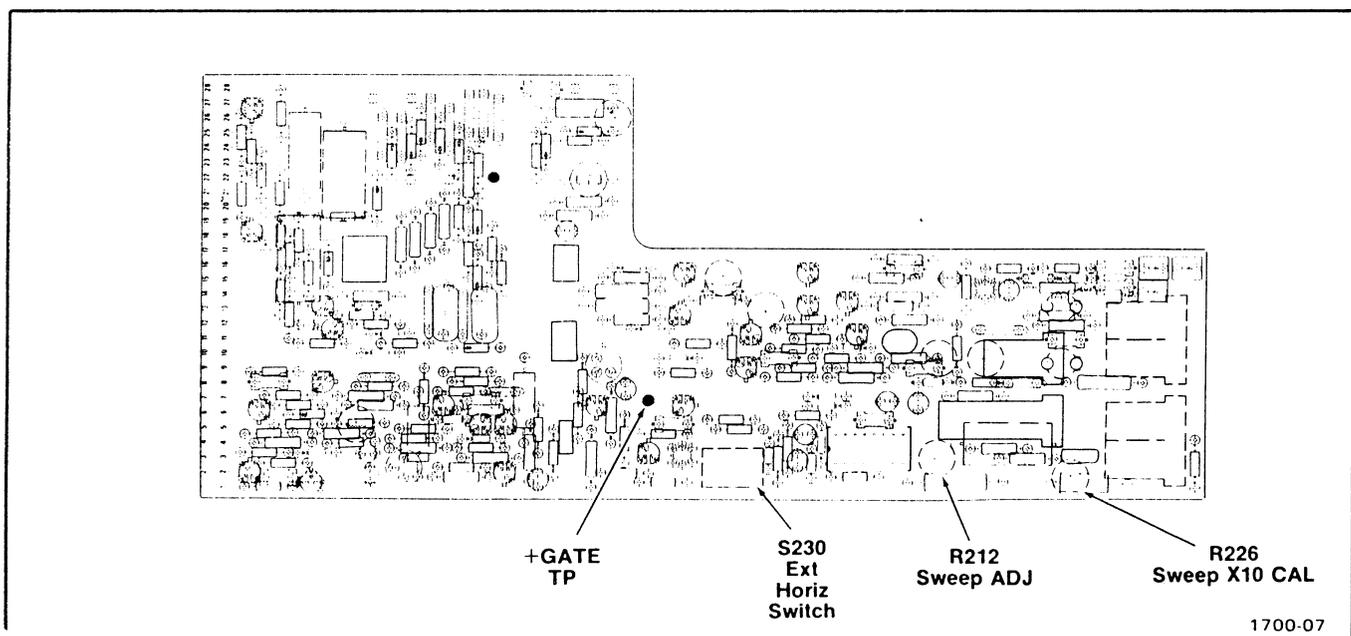

Fig. 3-5. Location of the +Gate test point; Sweep, and X10 Cal adjustments; S320 switch.
b. Connect the probe from the test oscilloscope to the +Gate test point. See Fig. 3-5 for test point location.
a. Set the SC 501 Ext Horiz (X-Y, Y-T) selector switch, S230, to the X-Y position (toward the rear of the instrument); it may be necessary to decrease the INTENSITY control. See Fig. 3-5 for switch location.